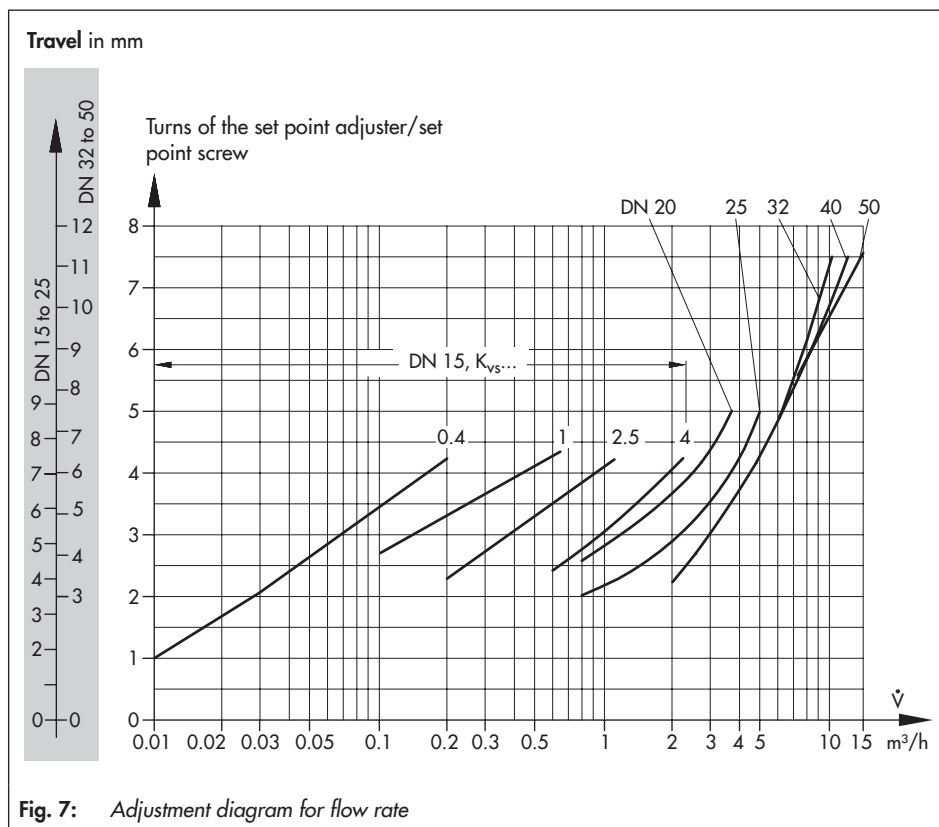

Fig. 7: Adjustment diagram for flow rate
2. Refer to Fig. 7 to find out how many turns or which valve travel is required to set the required flow rate. For valve size DN 15, the adjustment curve that corresponds with the flow coefficient K_{VS} indicated on the nameplate must be selected.
The flow rate indicated in the diagram (Fig. 7) is reduced by approximately 20 % for valves in sizes DN 32 to 50 which are combined with Types 5821 and 5822 Electric Actuators (discontinued).